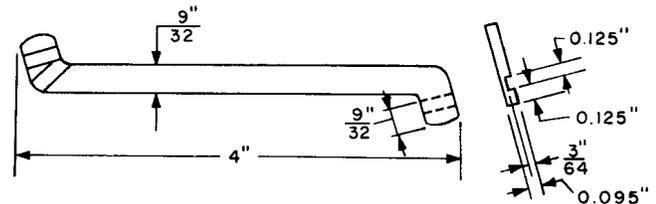

Fig. 18—597A Adjuster Tool
2.19 597A: The 597A tool (Fig. 18) is an armature adjuster used on step-by-step relays. The 597A tool replaces the AECO H-14768 tool.